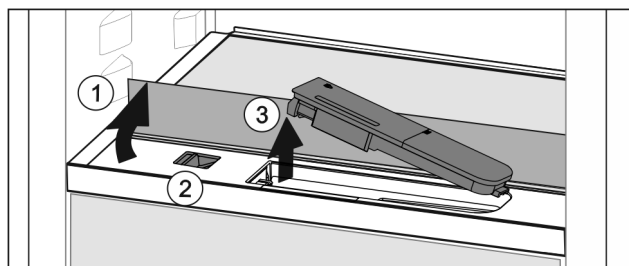

Fig. 143
- ▶ Lift the glass panel and fold towards the rear until it clicks into place Fig. 143 (1).
- ▶ Slide the slider Fig. 143 (2) to the left.
- ▶ Remove the water tank Fig. 143 (3).